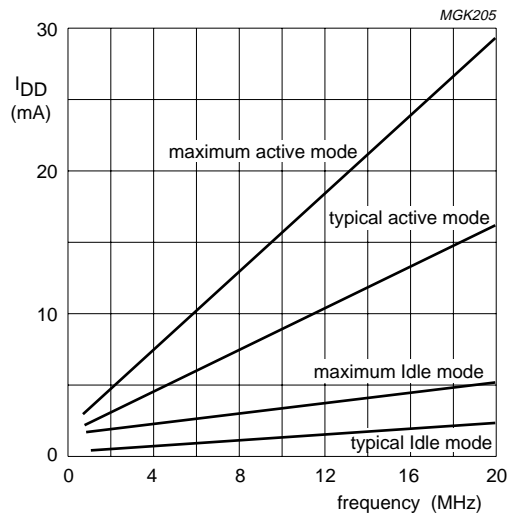

Fig.28 I_{DD} as function of frequency; valid only within frequency specifications of the device under test.
- I_{DD(max)} at other frequencies can be derived from Fig.28.